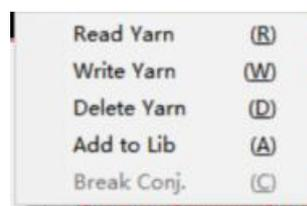

Figure 5-20 Weave area right-click menu
- ① Read weave: Replace the current weave in the weave table with the currently selected weave in the weave library.
- ② Write weave: Replace the currently selected weave in the weave library with the current weave in the weave table.
- ③ Delete weave: delete the current weave in the weave table.
- ④ Add to library: Add the current weave in the weave table to the weave library.
- ⑤ Break conjunction: Break conjunction the current weave in the weave list from the weave in the weave library.
4. Right-click menu in the weave area (Figure 5-20) operation: